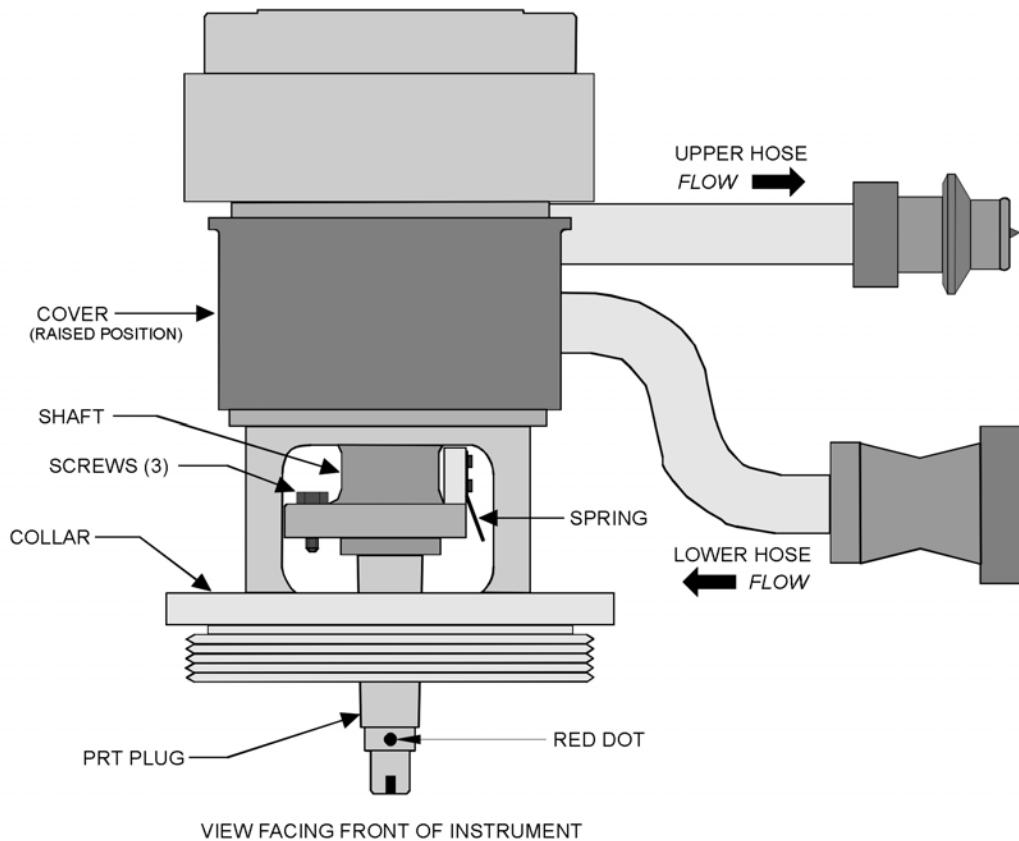

Figure 2-29. ARES Peltier Assembly
Three screws fasten the rotating Shaft of the Peltier Assembly (Figure 2-29) to the Test Station Motor Anvil. A threaded collar secures the Peltier Assembly Body to the Test Station Motor Housing.
Refer to Figure 2-29 during the following installation procedures.
- Ensure that the spring (Figure 2-29) is positioned behind the Anvil Tightening Knob on the ARES Motor. Rotate the Motor Anvil to gain access to the Anvil tightening knob then tighten the knob (a flat-head screwdriver may be used if you do not overtighten).